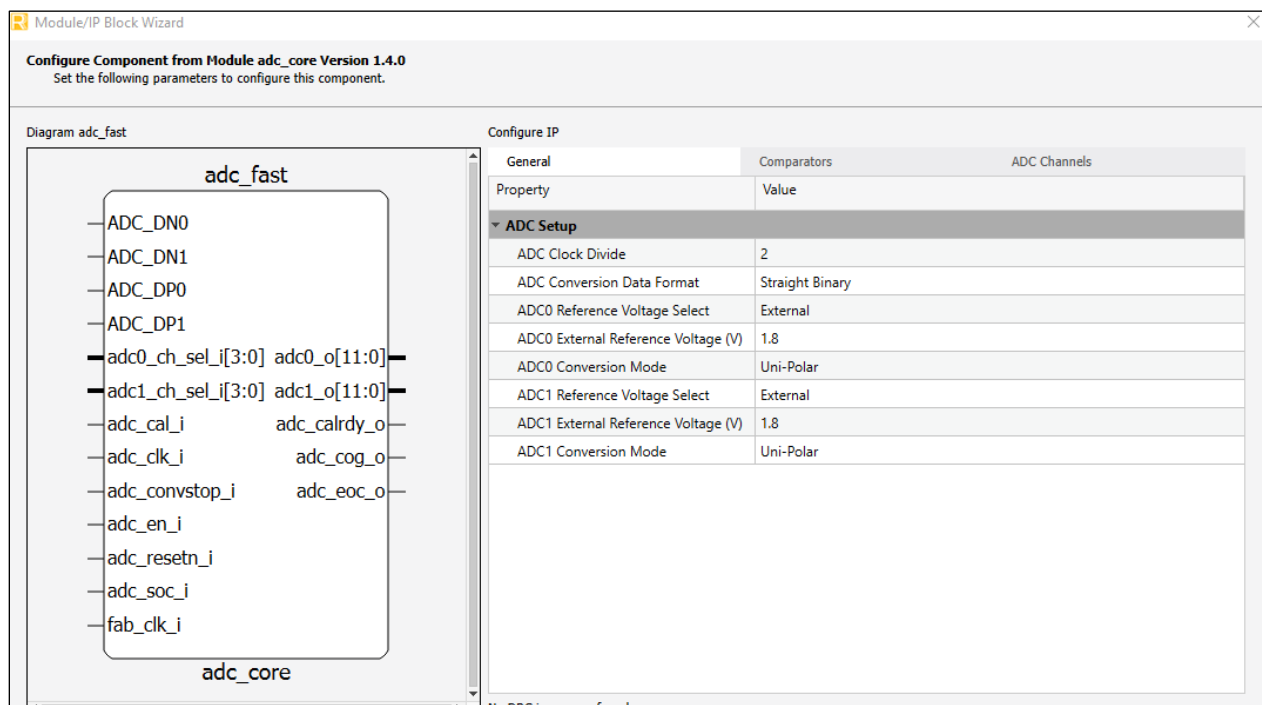

Figure 3.10. ADC Configuration Options
- $CLKDIV$ is the value by which the `adc_clk_i` is internally divided, as shown in Figure 3.10.